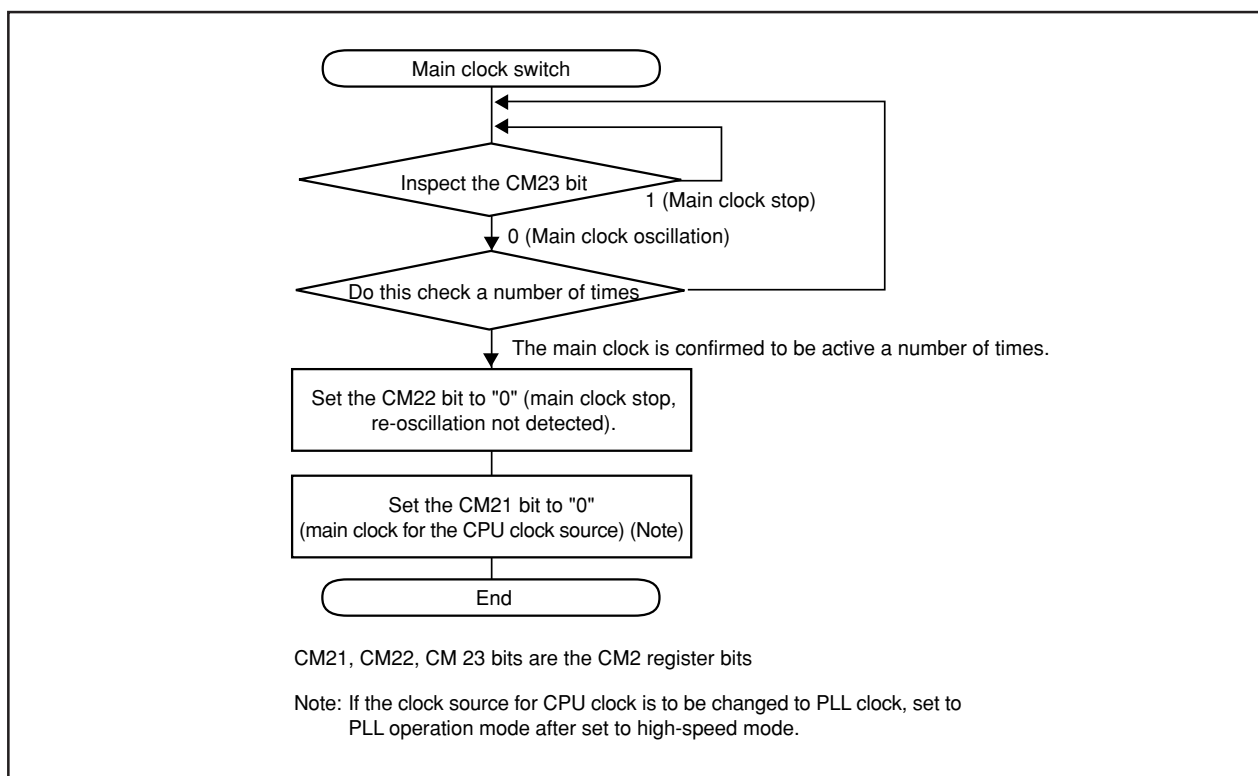

Figure 1.8.14 Procedure to Switch Clock Source from Ring Oscillator to Main Clock
- Where the main clock re-oscillated after oscillation stop, the clock source for CPU clock and peripheral function must be switched to the main clock in the program. Figure 1.8.14 shows the procedure to switch the clock source from the ring oscillator to the main clock.